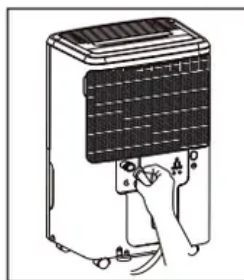

fig. 2
3. Insert the female threaded end of the hose onto the drain connector of the unit. (fig.2)